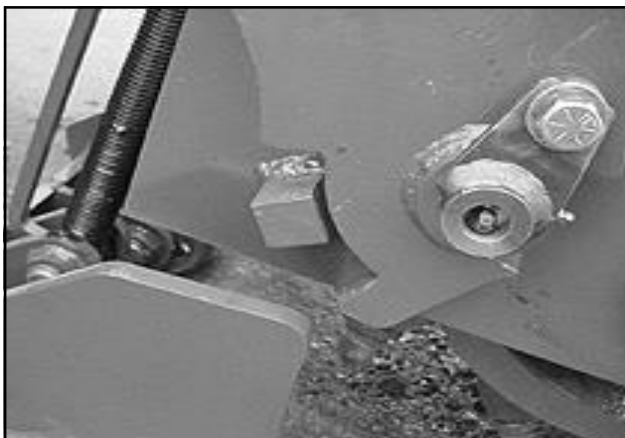

Figure 12.
7. To avoid excessive vibration and to achieve the best cutting results, the planer stop should be in the float position during the cutting operation as shown in Figure 12.